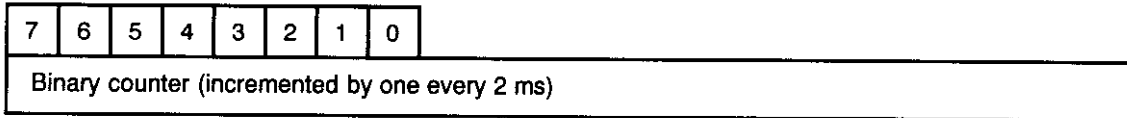

Figure 15. Elevation & Azimuth Time Stamp Word (Word 6 or 13)
- Word 6: Time Stamp see Figure 15
Word 13: Time Stamp see Figure 15